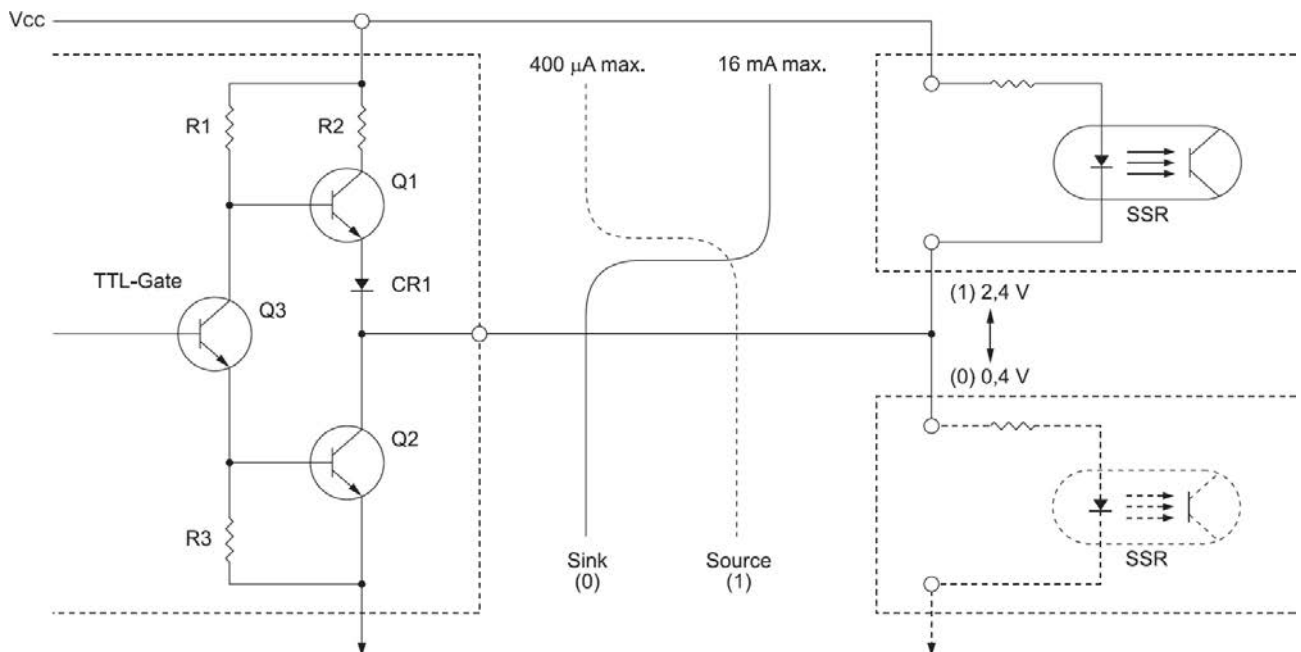

Fig. 10: Typical circuit of a TTL gate driving SSR
The relationship of the TTL gate to an SSR is illustrated schematically in Fig. 10. In this configuration the SSR supply voltage and the gate Vcc should be common and comply with the TTL specified limits of say 5 volts  $\pm$  10%. It can be seen that with a positively referenced SSR and the gate at logical (0), Q2 is operating much like a discrete NPN transistor in the grounded-emitter saturated state. In this mode the gate can sink up to 16 mA with a maximum 0.4 volt drop. Subtracting 0.4 volt from the worst case Vcc of 4.5 volts, a minimum of 4.1 volts will appear across the SSR input terminals, which is sufficient to turn on most SSRs. For different supply voltage tolerances, the values would be adjusted accordingly.
It should be noted that the 2.4 volt gate output in the logical 1 state relates only to a negatively referenced load. It does not represent a voltage source to a positively referenced load (SSR), where it would appear to be greater than the of state voltage. Referring again to Fig. 10, Q2 would be off and CR 1 is reverse biased, thus presenting essentially an open circuit with virtually zero potential across the SSR.